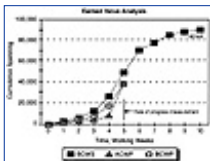

Figure 8-6 Earned value analysis—behind schedule, spending on target.
The next set of curves illustrates another possibility. In Figure 8-6 the BCWP and the ACWP curves are both at 40K. This means the project is behind schedule and under budget. However, because the project spending is 40K and work value is 40K, spending is correct for what is being accomplished. There is a schedule variance but not a spending variance.
- When ACWP and BCWP are nearly equal and below BCWS (see Figure 8-6), it usually means the opposite of the previous situation; that is, you have not had enough resources applied. Perhaps resources were stolen from you, perhaps it has rained more than you expected, or perhaps everyone has decided to take a vacation at once. The problem with being in this position is that it usually results in an overspend when you try to catch up.